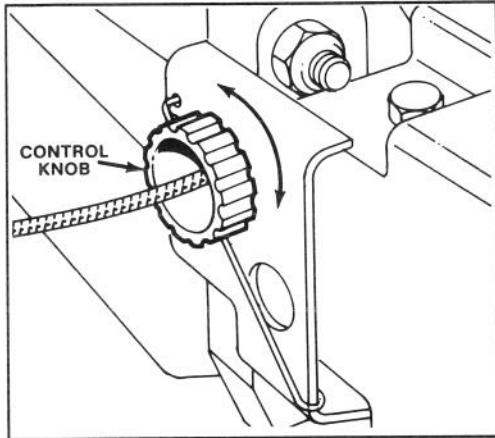

Figure 19
2. ADJUSTMENT (Fig. 19) — Rotate control knob clockwise 1/2 turn if mower does not self-propel. If mower creeps forward, rotate knob 1/2 turn counterclockwise to loosen belt.